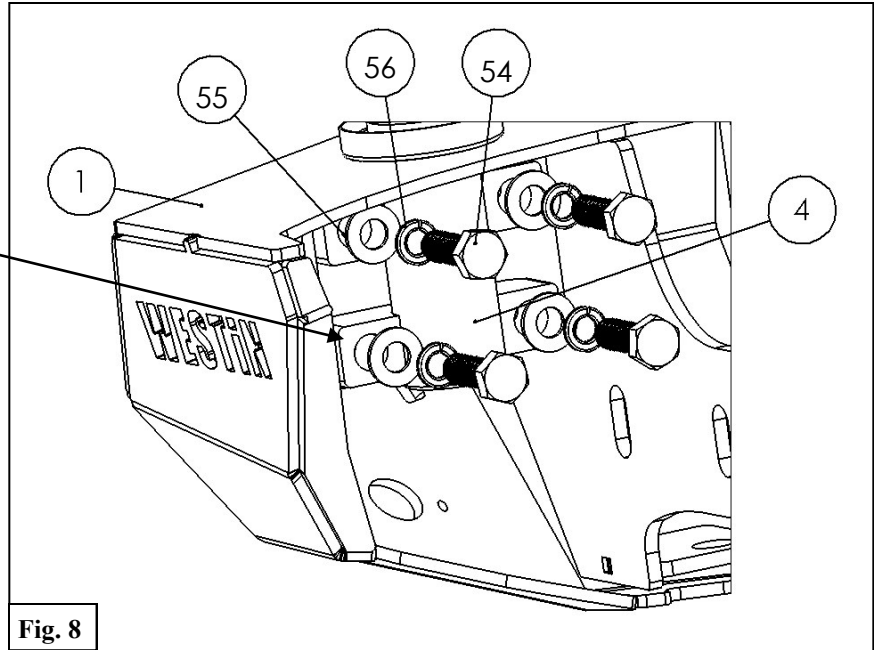

Fig. 8
*Note: Bumper will slide over the frame rail and will use the supplied Nut Plates (3) and factory Nut Plates.*
9. Install the spindle (4) onto the bumper using the supplied M12 Hardware. See **Figure 8**. *Note*– do not fully tighten at this time. \*This step is only taken for 59-82035 **Important: Use the Class 10.9 Hardware & thick washers to mount the spindle.**